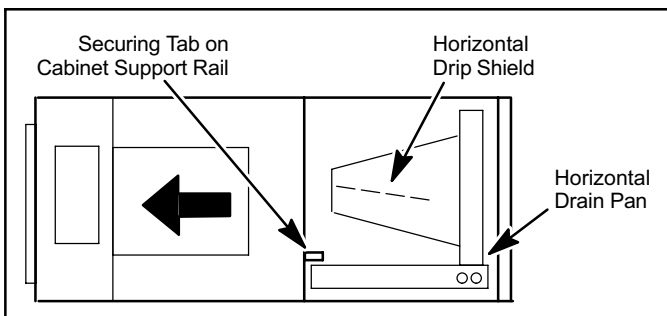

Figure 5. Left-Hand Discharge Configuration
Step 9. From the up-flow position, flip cabinet 90° to the left and set into place. Replace coil assembly and secure coil in place by bending down tab on cabinet support rail as illustrated in figure 5.